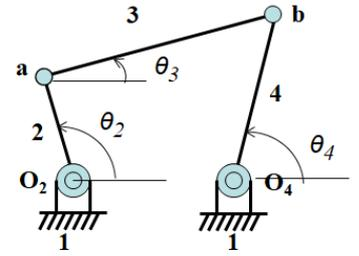

Fig.3. Four-bar linkage
3. Fig. 3 show a four-bar linkage. For the mechanism, if  $r_1=180\text{cm}$ ,  $r_2=100\text{cm}$ ,  $r_3=150\text{cm}$ , and  $r_4 =200\text{cm}$ , (a) write down the vector loop equation, (b) if  $\theta_2=60^\circ$  and  $\omega_2=2400\text{rpm}$ , please find the values of  $\theta_3$ ,  $\theta_4$ , and transmission angle  $\mu$ , (c) if  $\omega_2=2400\text{rpm}$ , please find he values of  $\omega_3$  and  $\omega_4$ .(20%)